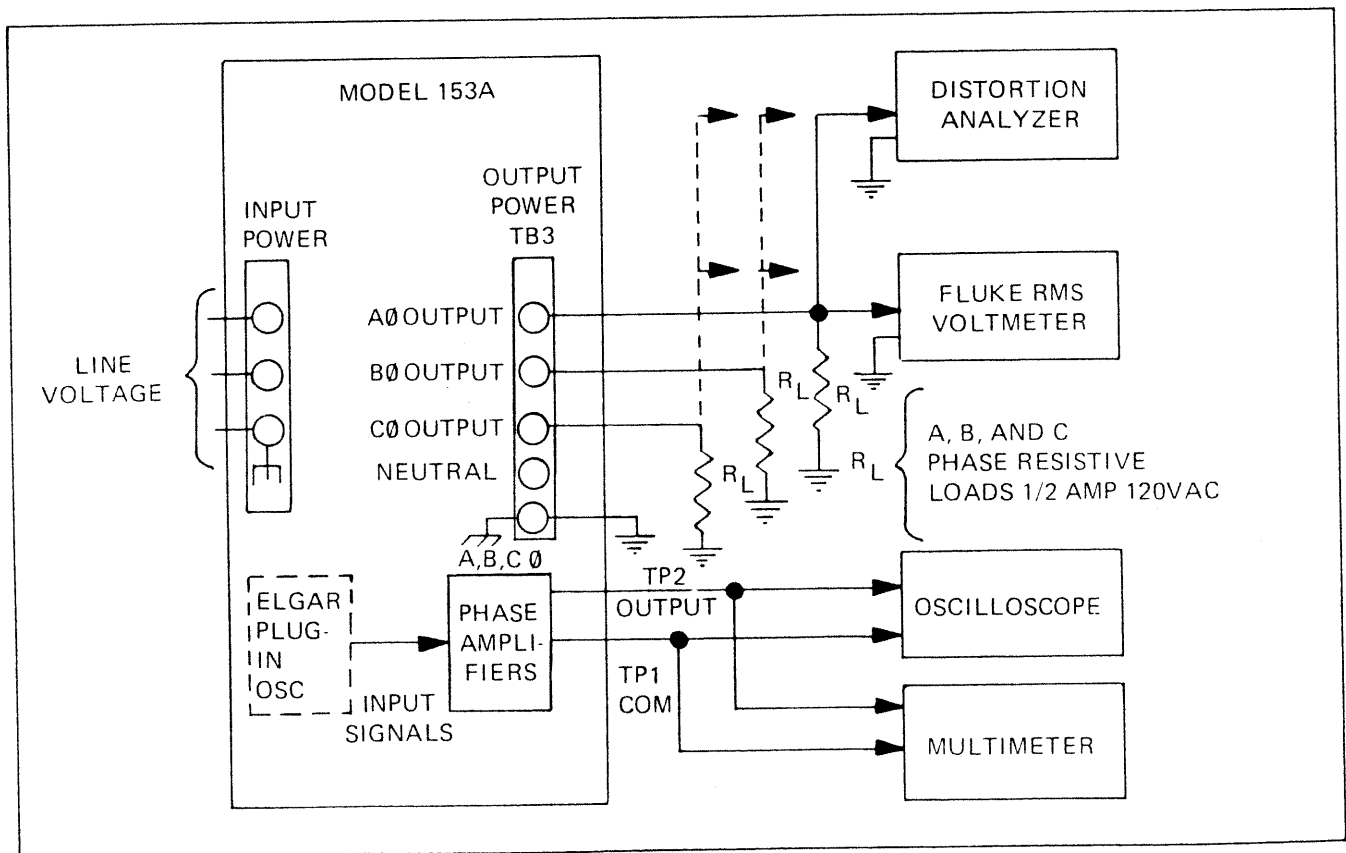

FIGURE 5-2. TEST SETUP
5-17. The output voltage is controlled by the front-panel AMPLITUDE control (for most plug-in oscillators). The B-phase and C-phase balance potentiometers (R2 and R3) are set to give B-phase and C-phase voltages equal to the A-phase voltages. No further adjustments should be required unless the plug-in oscillator is changed. The oscillator phase-angles must be adjusted to give equal line-to-line voltages after the phase-voltage amplitudes have been balanced. Phase angle controls are located on the plug-in oscillator. If the phase voltages are set to 120V, the proper value of line-to-line voltage is 207.84V. The B-phase angle control is used to set the A-B voltage and the C-phase angle control to set the A-C voltage. Serious misadjustment of either phase angle or phase voltage balance will cause circulating currents to flow between amplifiers which may actuate the current limiting circuits in the amplifier. To check the output and amplitude balance and adjust as needed, (See Figure 5-2), proceed as follows:
2. Connect three resistive loads each capable of dissipating 1/2 ampere. (See Figure 5-2.)
3. Connect distortion analyzer to A phase output terminals. (See Figure 5-2.)